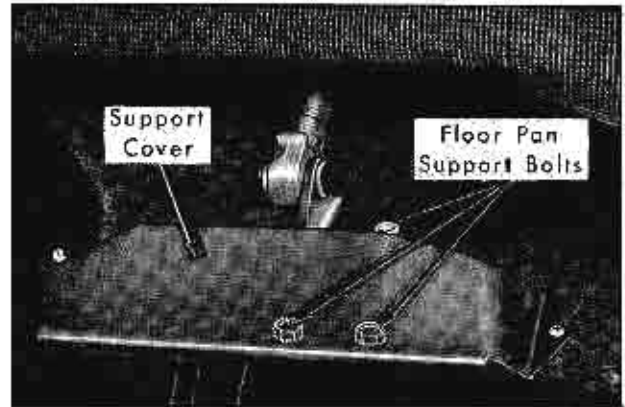

Fig. 3-57 Horizontal Regulator Floor Pan Support Cover
4. Under rear of seat, remove horizontal regulator floor pan support cover, Fig. 3-57, and remove support screws; then tie regulator to vertical equalizing rod.